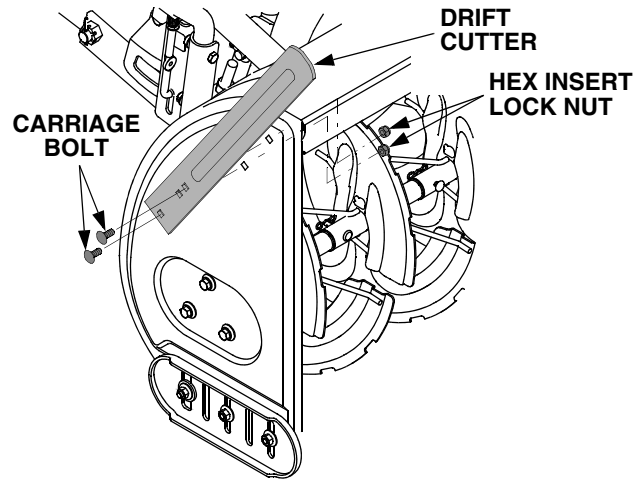

Figure 25
Drift cutters on both sides of the auger housing can be adjusted to the up position for a higher cut. Refer to Figure 25 and proceed as follows:
- Turn the drift cutters to the up position and secure with the carriage bolts and hex insert lock nuts as shown in Figure 25.